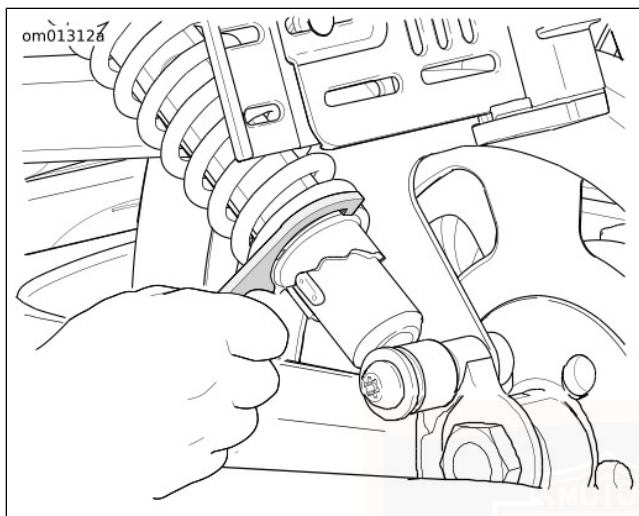

Figure 18. Rear Shock Absorber Adjustment: VRSCF
1. See Figure 18. Place a SHOCK ADJUSTMENT SPANNER (PART NUMBER: 94448-82B) around the lower collar of the shock absorber.